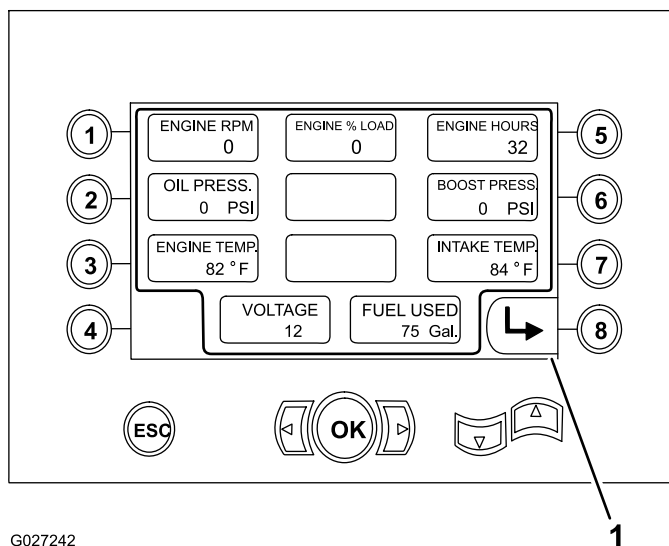

Figure 37
- Engine speed in rpm (Figure 37)
- Engine load percentage (Figure 37)
- Engine hours (Figure 37)
- Oil pressure and boost pressure (Figure 37)
- Engine coolant and intake temperature (Figure 37)
- Voltage (Figure 37)
- Amount of fuel used (Figure 37)